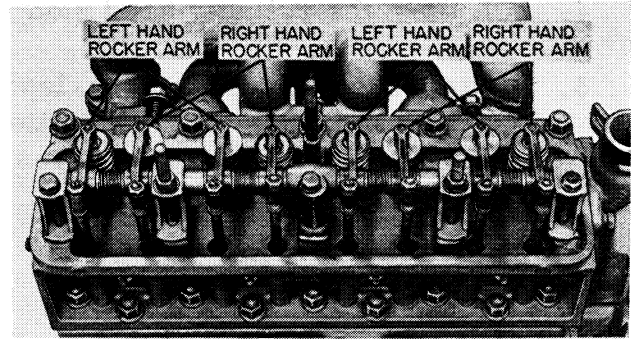

Figure 7 - Right And Left Rocker Arm
7. When reassembling rocker arms on shaft, make certain the right and left rocker arms are assembled in their respective positions. See Figure 7.